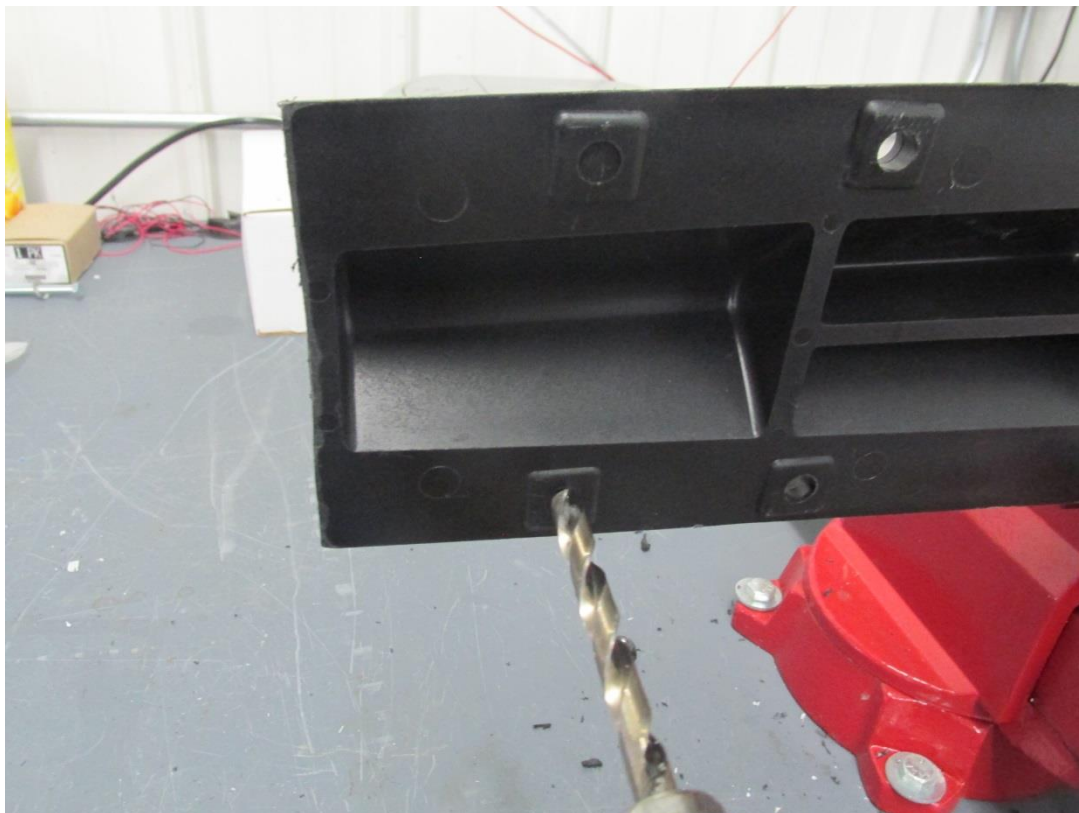
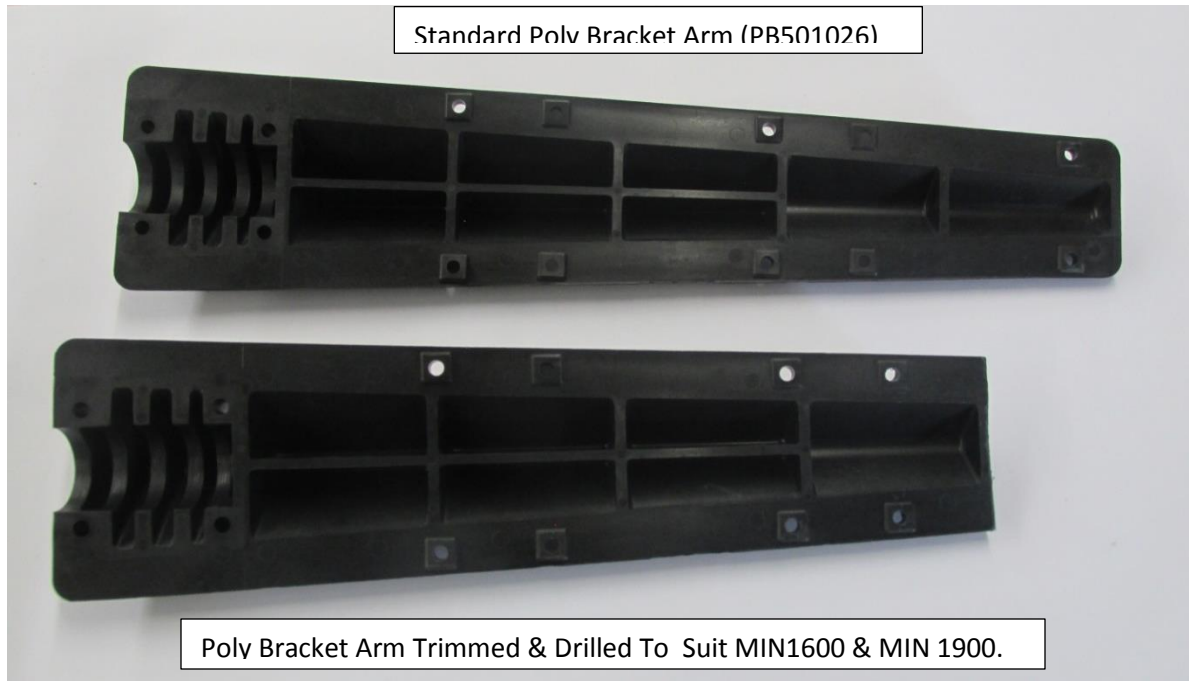

Figure 3 - Drilling Poly Bracket After Trimming
Figure 4 - Side by Side View of Standard Bracket and Trimmed Bracket
- 2) If trimming is needed, there is a structural rib located on the bottom of the bracket 4.5 inches from the end. Trim off the bracket at the outer edge of the structural rib as shown by the red line in Figure 3. Clamp the bracket in a vise and make the cut using a jig saw or reciprocating saw.
- 4) On the bottom of the bracket locate the two square standoffs with the shallow hole near the cut end. Mounting holes may be drilled at the center of the square standoffs. In most cases the holes will align well with the outer rib of the fender. Use a 5/16 drill bit to drill the hole as shown in Figure 3. Figure 4 below shows the bracket before and after trimming and drilling.